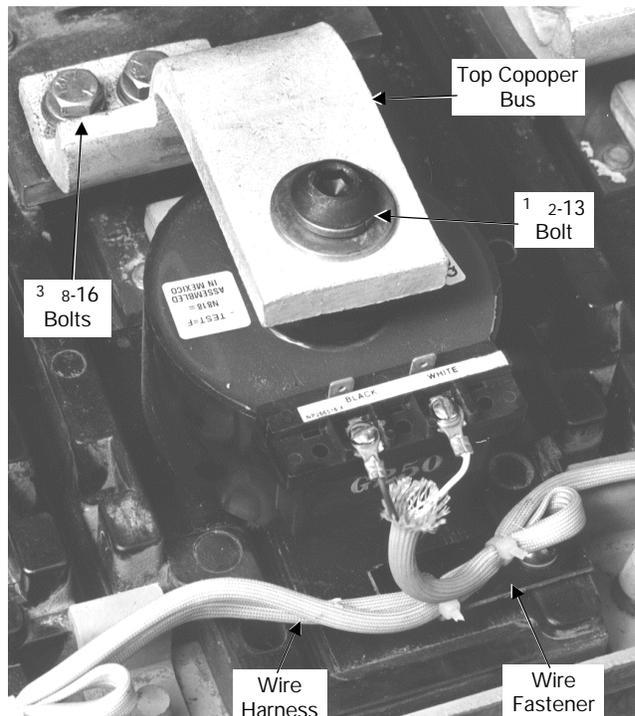

Figure 7. CT installation completed..
2. Fasten the three small insulated wire fasteners to the back frame with the $\frac{1}{4}$ -20 x $1\frac{3}{4}$ " screws provided, as shown in Figure 7. One fastener is mounted under each CT.